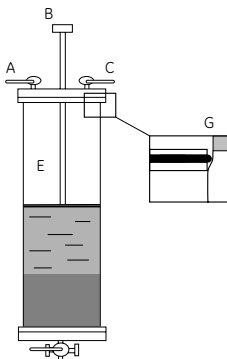

Fig 4. Schematic representation of INdEX column with a 4-port (2-way) valve mounted at the bottom outlet.
2. Pour the slurry into the column. Fill the column with packing solution up to the top of the glass tube and mix the slurry. Allow the medium to sediment to just below the bevel of the glass tube (G), see Figure 4.
5. Connect a pump to the inlet of the hydraulic chamber (A), with a